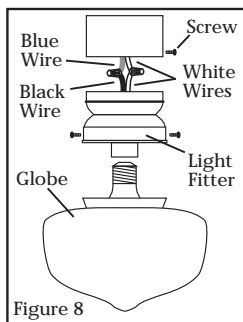

Figure 8
- Connect the black wire in the light fitter with the blue wire marked "For Light" using the supplied wire nuts. (Figure 8)